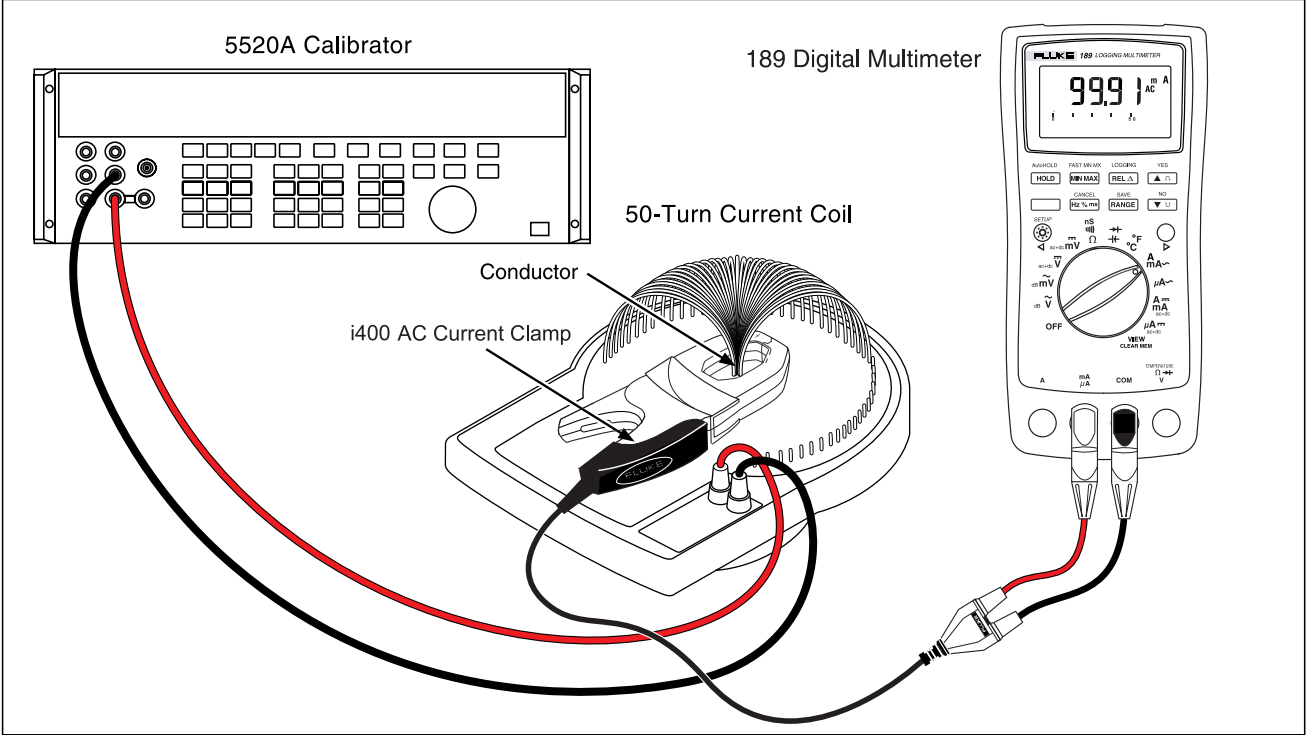

Figure 3. Connections for Current-Accuracy Test (Steps 2 and 3)
- 5. Connect the equipment as shown in Figure 3.